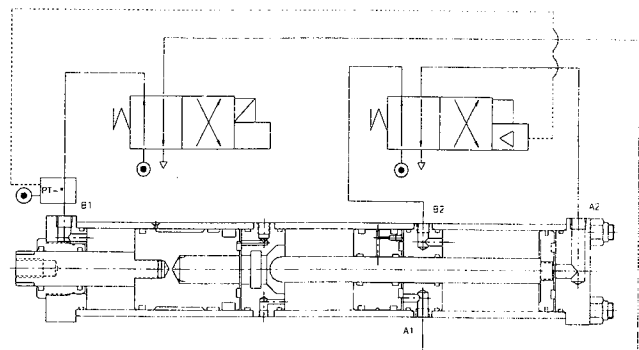

Fig. 8.1.1
The AEC/HyperCyl, PT and ELT series threshold sensors are a threshold/not sensor installed directly into the cylinder B1 port. Both sensors provide either a pneumatic, (PT) or electrical, (ELT) signal when the air exhausting from the B1 cylinder port has decayed to 6 PSI, indicating the cylinder rod and customer tooling have made contact with the work surface. (Fig. 8.1.1)